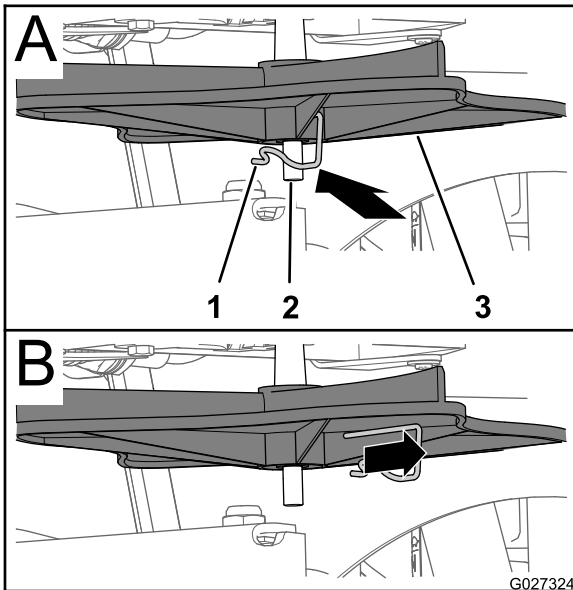
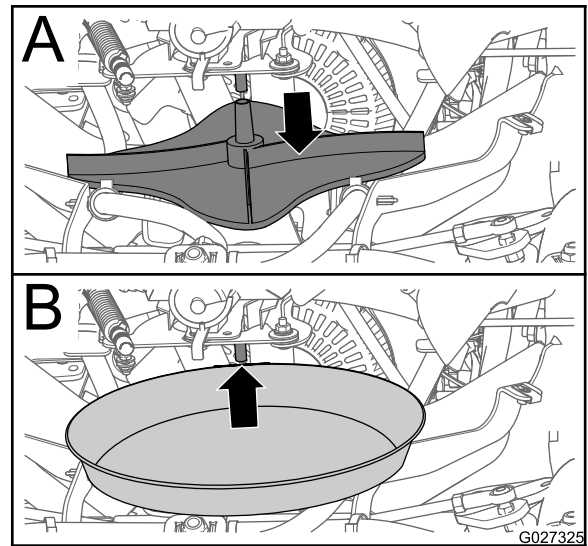

Figure 26
Figure 27
4. Remove the drive pin that secure the impeller to the shaft of the impeller motor, and remove the impeller from the shaft (Figure 26 and Figure 27).
5. Place a shallow pan under the shaft of the impeller motor (Figure 27).